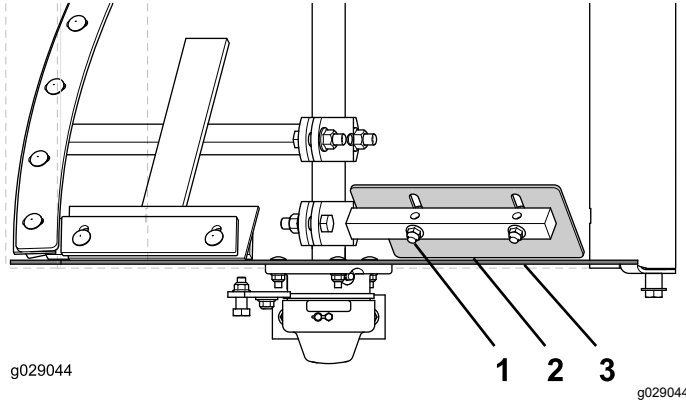

Figure 72
2. Loosen the carriage bolts and flanged locknuts that secure the adjustable end paddle to the fixed paddle. (Figure 72)